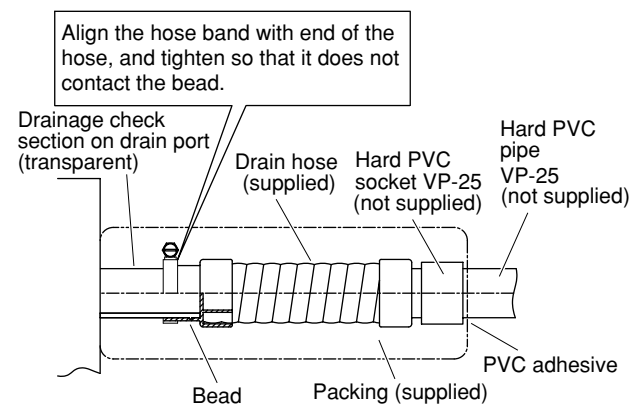

Fig. 3-10
(1) Prepare standard hard PVC pipe (O.D. 32 mm) for the drain and use the supplied drain hose and hose band to prevent water leaks. The PVC pipe must be purchased separately. The unit's transparent drain port allows you to check drainage. (Fig. 3-10)
- Tighten the hose clamps so their locking nuts face upward. (Fig. 3-10)